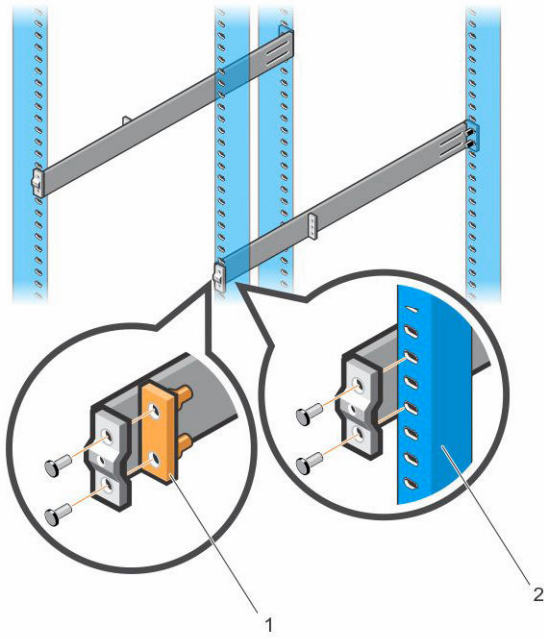

Figure 17. Four-Post Threaded Configuration
- 1 For this configuration, remove the flange ear castings from each end of the ReadyRails assemblies. Use a Torx driver to remove the two screws from each flange ear and remove each casting. See item 1 in Figure 17. Retain the castings for future rack requirements.
- 2 For each rail, attach the front and back flanges to the post flanges with two user-supplied screws at each end. See item 2.